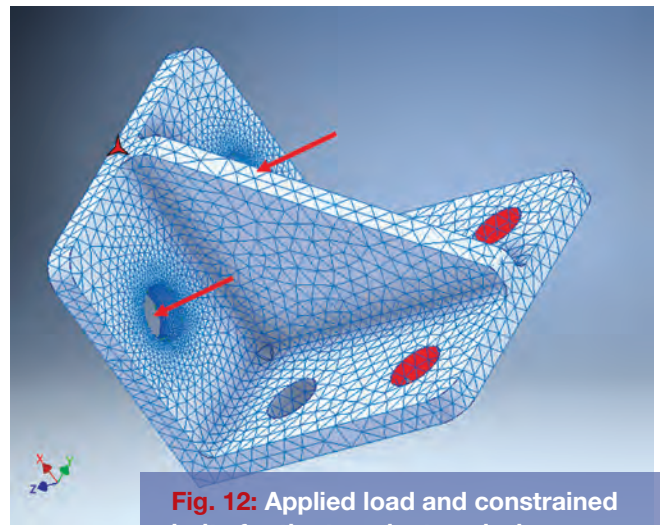
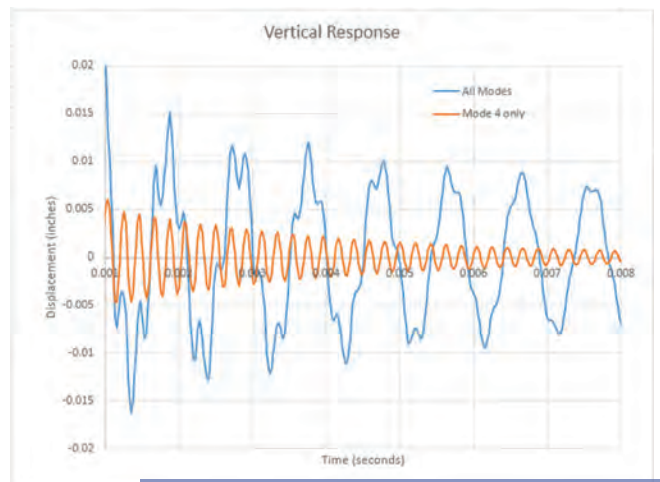

Fig. 12: Applied load and constrained bolts for the transient analysis.
Fig. 13: Transient response at key node using all modes and mode 4 only.
For the next task, I created a transient analysis with a vertical (Z) impulse being applied at the two bolts in the XY plane. The setup is shown in Fig. 12.
The analysis results are presented as a vertical (Z) deflection time history at the edge node indicated by the red star in Fig. 12. Results are shown in Fig. 13 for two analysis runs.